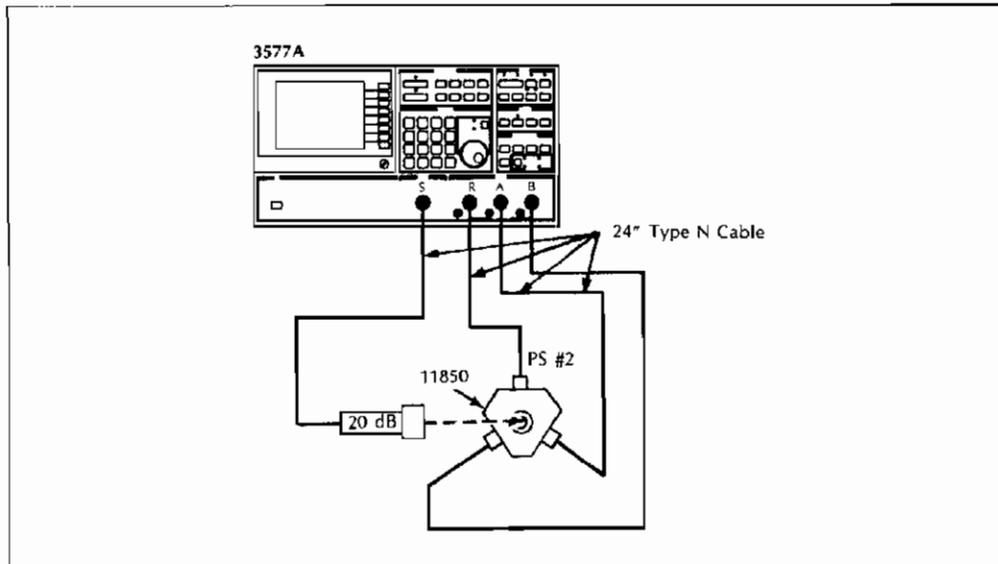

Figure 4-5 Input Level Flatness Test Set Up
- e. After the calibration data has been collected, connect the equipment as shown in Figure 4-5.